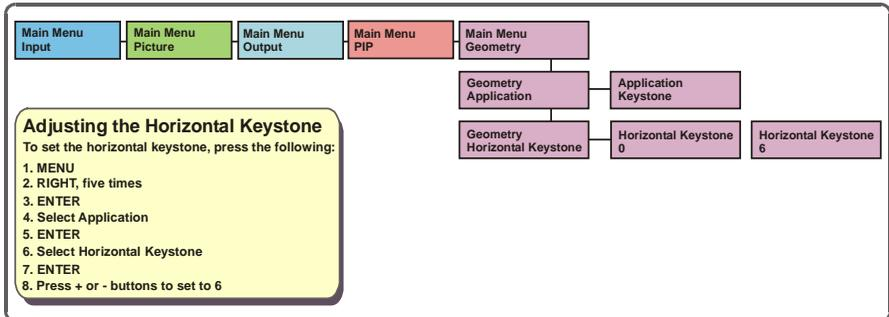

Figure 28: Example of How to Use the LCD Display
To keep the picture rectangular, Figure 28 illustrates how to adjust the Keystone via the OSD Menu
2. Press the appropriate front panel OSD buttons (as defined in Figure 28).